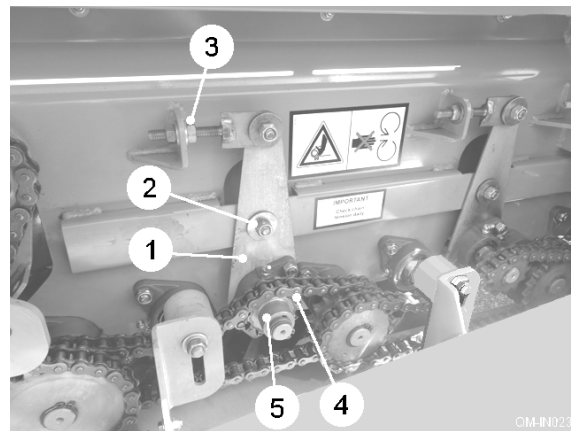

Fig. 16
The clod rollers are independently adjustable on their mounting arms (item 1, fig. 16). To adjust, slacken the bolts (item 2, fig. 16) (one each side) locking the arms to the side panels, and turn the lock nuts (item 3, fig. 16) to reposition the clod roller. It is important that the clod roller adjustment is carried out so that both ends of the roller are parallel to the star shaft. Finally, retighten all nuts and bolts.
If crop loss is being experienced, or if the flow over the first part of the Galaxy is being held up, then it is advisable to reverse the direction of the first clod roller. This is done by re-routing the drive chain (item 4, fig. 16) to drive the clod roller sprocket (item 5, fig. 16) from above (as shown). The clod roller will then run in the same direction as the stars. When a clod roller has been reversed, its scraper should be turned over to allow clear passage of soil etc.